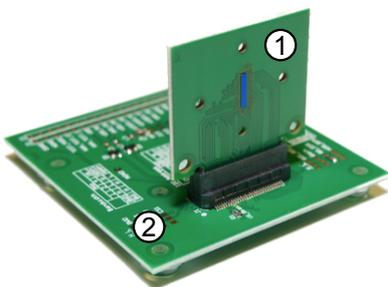

Figure 1: Carrier board on Evaluation board
Figure 1 show the evaluation chip carrier board ① inserted into the edge connector socket of the evaluation board ②. Figures 2 and 3 depict the hardware with optional lens mount and lens, respectively.